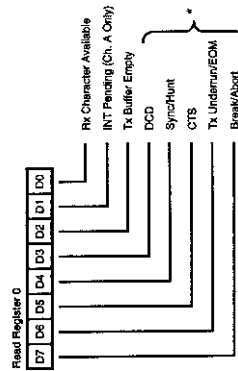

Figure 20a. SIO Read Register 0
**Read Registers.** The SIO channel B contains three read registers while channel A contains only two that are read to obtain status information. To read the contents of a register (rather than WR0), the program must first write a pointer to WR0 in exactly the same manner as a write operation. The next I/O read cycle will place the contents of the selected read registers onto the data bus (Figure 20a, b, c).